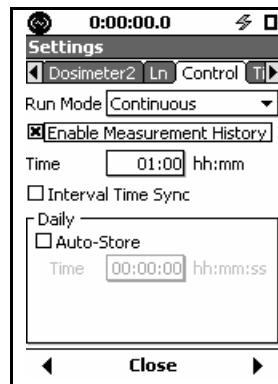

FIGURE 10-1 Measurement History Setup
- Step 5** Navigate down to the **Enable Measurement History** option and press $\text{\textcircled{ENTER}}$ to select the check box, as shown in FIGURE 10-1.